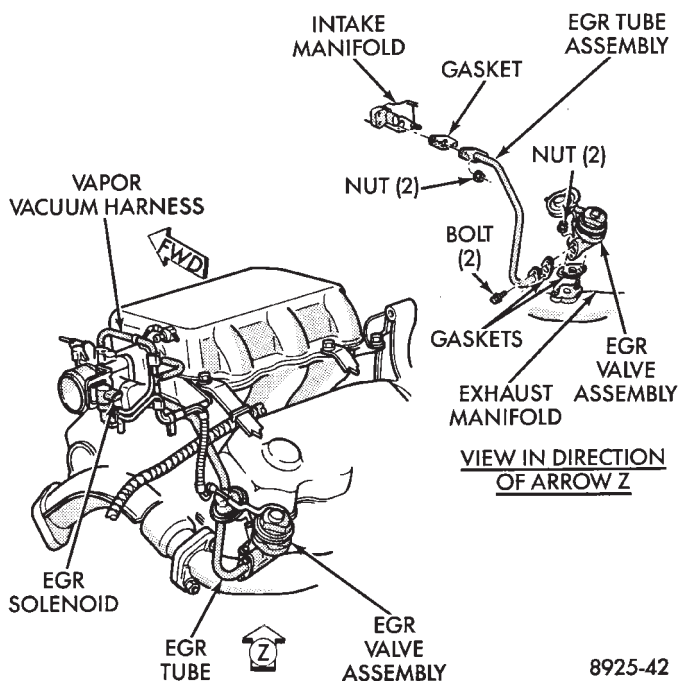

Fig. 16 EGR Service—3.0L Engines
- (1) Disconnect the electric and vacuum connectors from the electric EGR transducer (EET) (Fig. 16).
- (2) Remove EGR valve nuts to exhaust manifold.
- (3) Remove EGR flange bolts from valve.
- (4) Remove EGR valve tube flange nuts from intake manifold.
- (5) Clean all gasket surfaces and discard old gaskets. Check for any signs of leakage or cracked surfaces. Repair or replace as necessary.